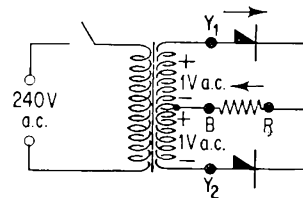

Fig. 312
Using a transformer with a centre-tapped secondary (Fig. 312), you can join together two half-wave rectifiers to form a full-wave rectifier_{N104}. Each half is identical with the circuit shown in Fig. 283, but the rectifiers conduct on alternate half-cycles. *When the voltage across the secondary is as shown, which rectifier is conducting?* (31) *In what direction will electrons flow through the resistor?* (32) *If R and B are the d.c. output terminals, which is the positive terminal?* (33) *What will be the p.d. between Y₁ and Y₂?* (34)